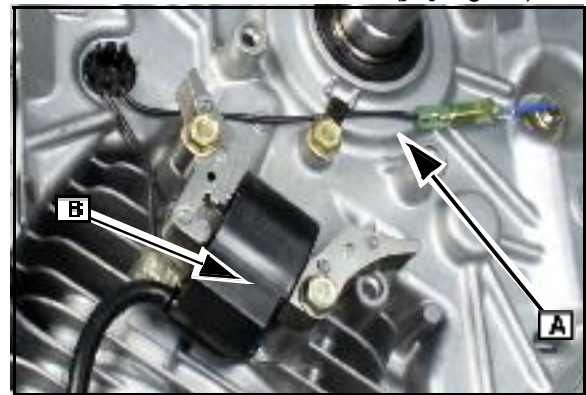

Fig. 14
1. Make sure the wiring harness is routed and secured as shown in ([A] Fig. 14).
2. Mount ignition coil ([B] Fig. 14) and connect ground wire.